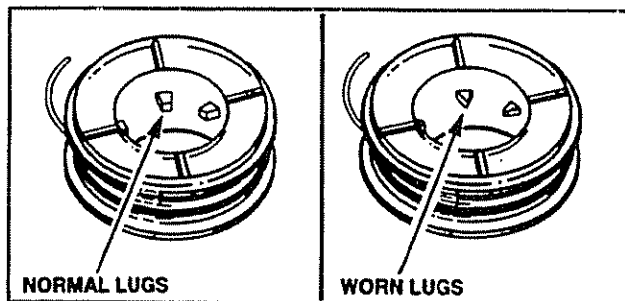

Figure 23
- Clean dirt and debris from all parts. Replace the spool when the square corners on the lugs are rounded off, reduced in size, or broken off. Figure 23.